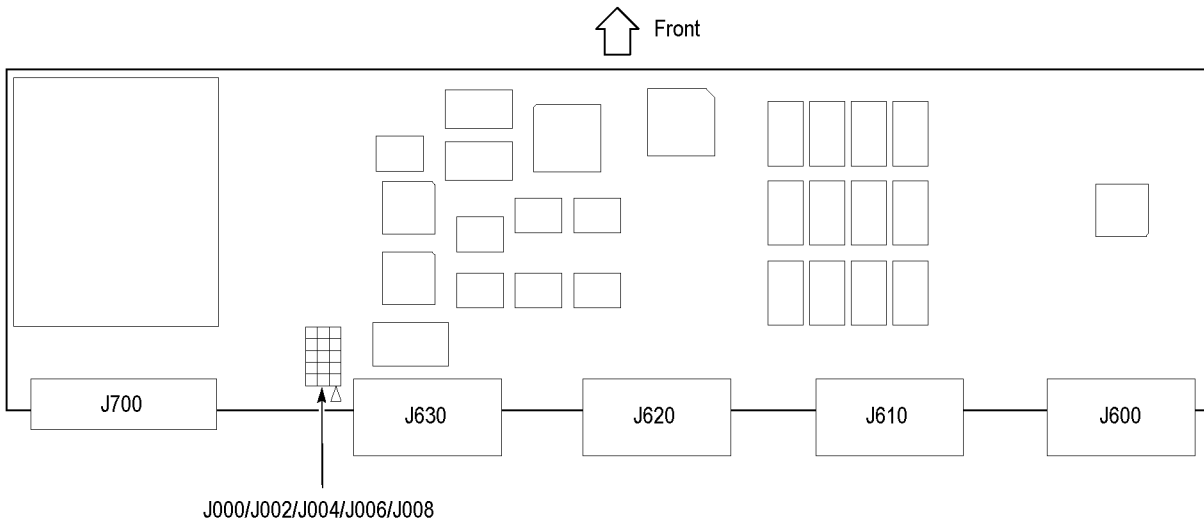

Figure 36: Location of the mainframe GPI connectors on the A10 MAIN board
4. Locate the connectors **J000**, **J002**, **J004**, **J006**, and **J008** on the A10 MAIN board. (See Figure 36.)